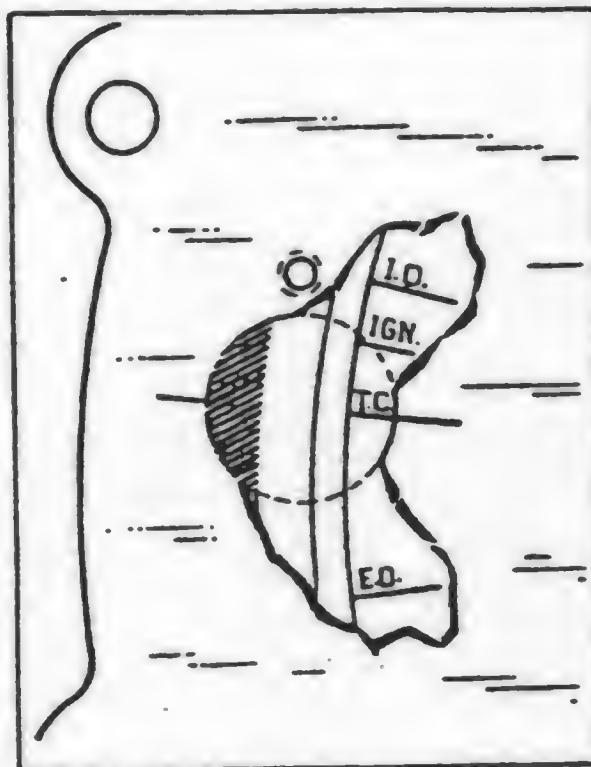

FIG. 16 TIMING MARKS (FLYWHEEL)
5. *Ignition Timing.*—Check the ignition timing by using a neon timing light, if available, and make any adjustment needed. A small arm attached to the throttle shaft arm may be turned over and forward to a position that will hold the throttle at an idle position and cause the engine to operate at the moderate speed necessary for use of the neon timing light. If the neon timing light is not available, crank the engine very slowly by hand, stopping exactly when the breaker contacts separate at firing position for No. 1 cylinder. Then check the position of the IGN mark on the flywheel, (Fig. 16) as seen through the timing hole in the flywheel housing on the left side of the engine. Timing is correct if the IGN mark is at the center of the hole at the instant the points separate. Repeat the checks a time or two for accuracy. If necessary to adjust the timing, loosen the clamp bolt, turn the distributor body to the proper position and tighten the bolt. Then recheck to verify the correctness of the new setting.